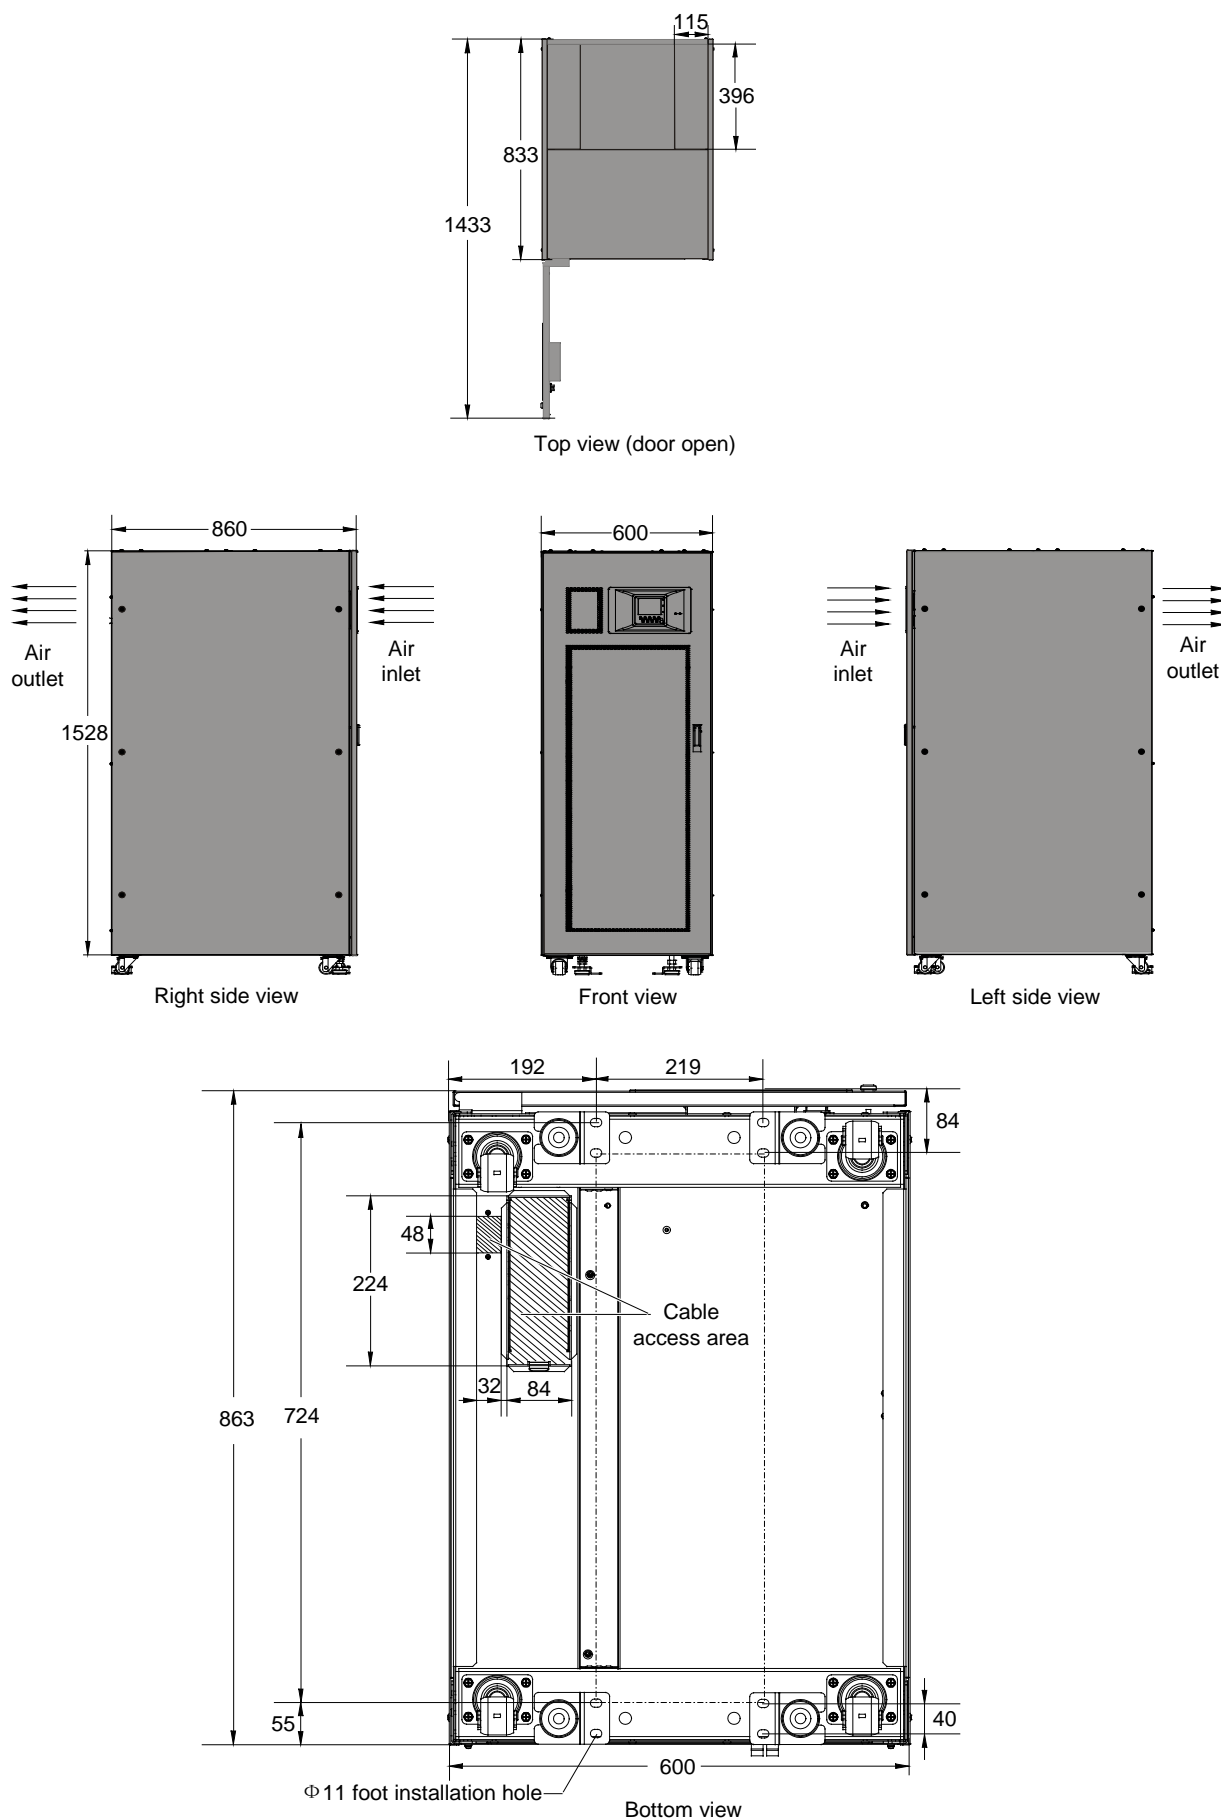

Figure 2-7 Top/front/side/bottom view of the UPS (unit: mm)
4. Align the foot fixing pieces with the installation holes dug according to dimensions shown in Figure 2-7.
Figure 2-7 describes the key mechanical characteristics of the UPS.